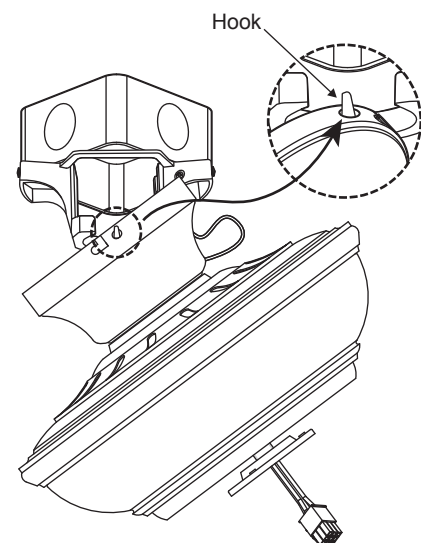

Figure 10
Step 7. Hang the fan on the hook of the hanger bracket. Be certain that the canopy is fully locked into hook as shown in Fig. 10. This will allow you to make the electrical connections.